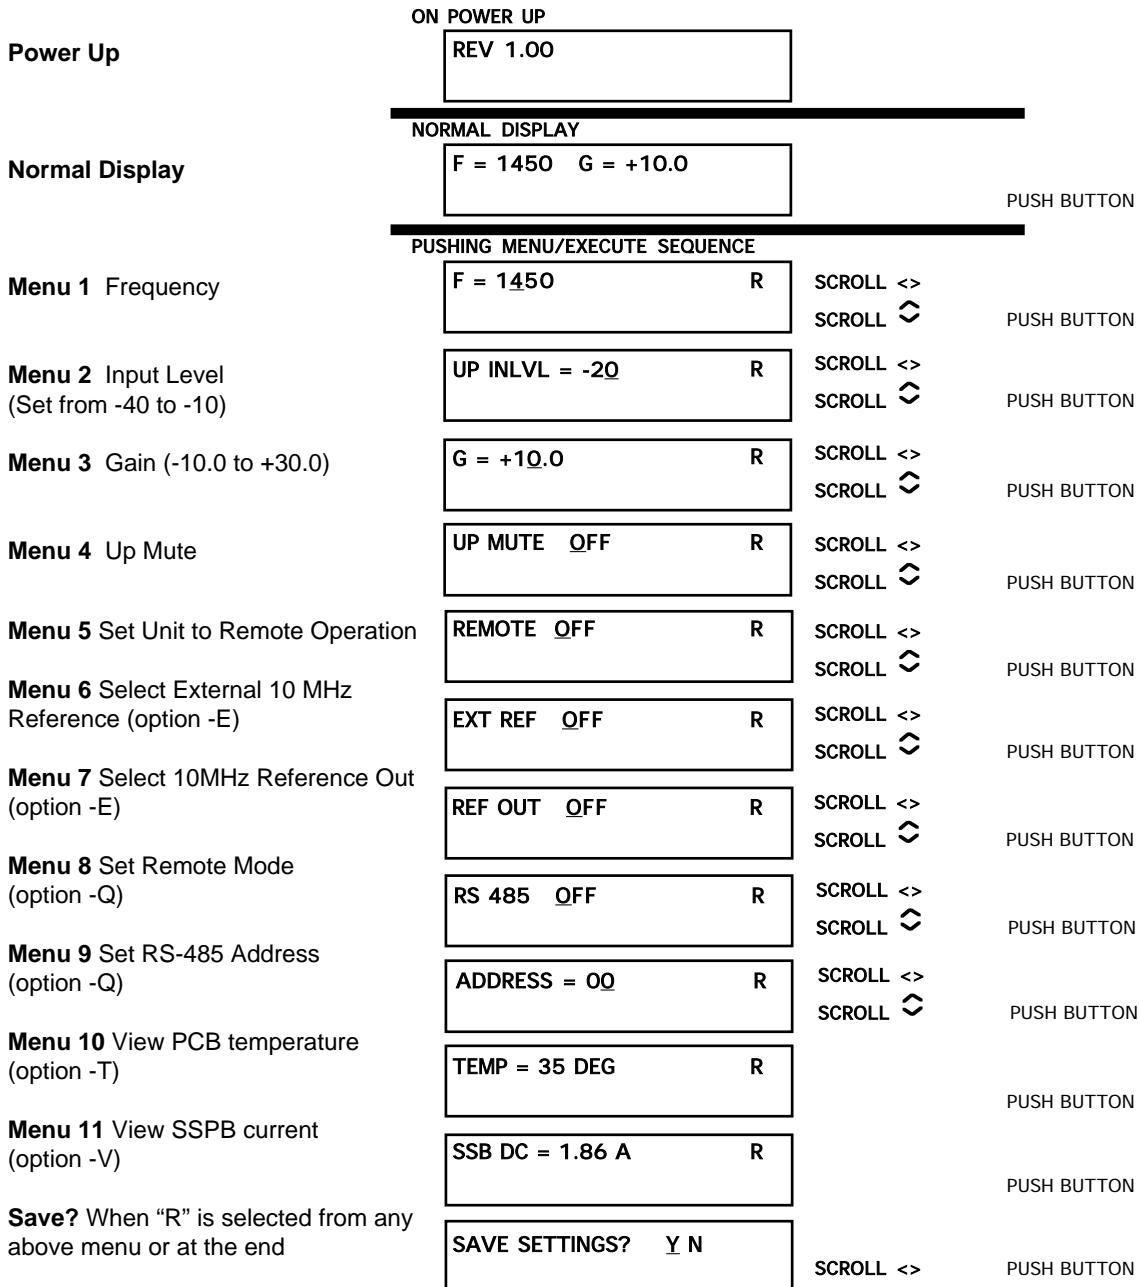

FIGURE 2.4 Menu Display and Sequences
2.5.1 Functions - This section describes operation of the front panel controls. There are three operator switches, the LCD display and alarm indicator LEDs. All functions for the equipment are controlled by these components. The functions are (see Figure 2.4):
Operate the Menu/Execute switch until you get to the menu item you want to change see Figure 2.4 for the sequence of menu options. The following display is for changing the upconverter frequency:
Figure 2.4 gives the menu items and how to make changes